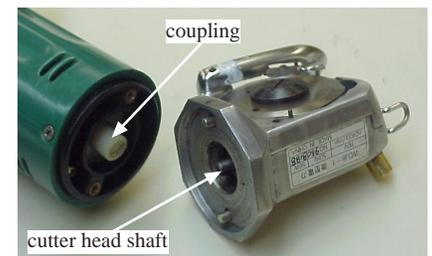

Figure 11.
5. Take the worn coupling out and put the new one in (see Figure 11).